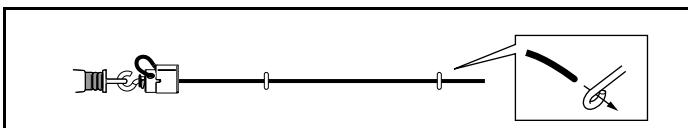

Fig. 6: Mounting the eye bolts
- Guide rope through half the eye bolts to about the middle of the full rope span. (Fig. 6).